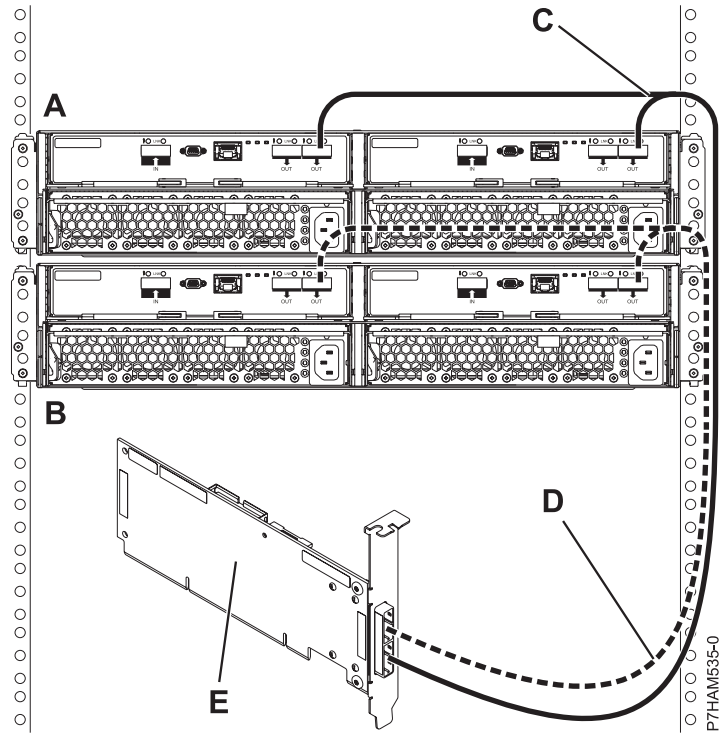

Figure 28. Mode 1 connection of two 58/87 disk drive enclosures by using YO cables to a single SAS adapter
- i. Perform the mode 1 connection of two 58/87 disk drive enclosures (**A and B**) by using YO cables (**C and D**) to a single SAS adapter (**E**) as shown in Figure 28 on page 25.